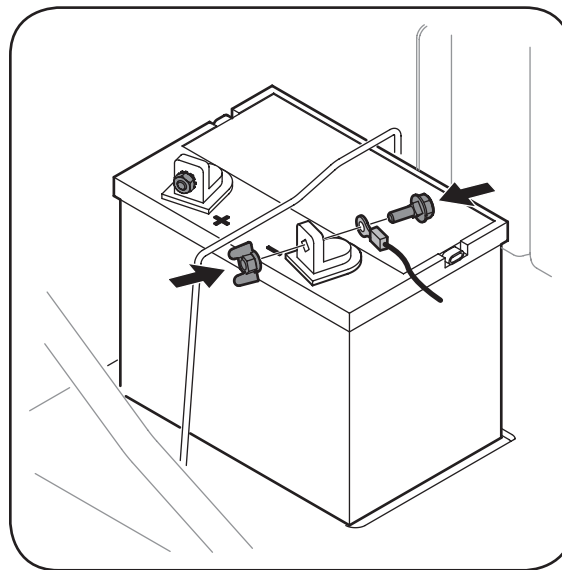

Figure 3-6: Connect negative cable to negative terminal.
1. Remove the wing nut and bolt from the negative cable, Figure 3-6.